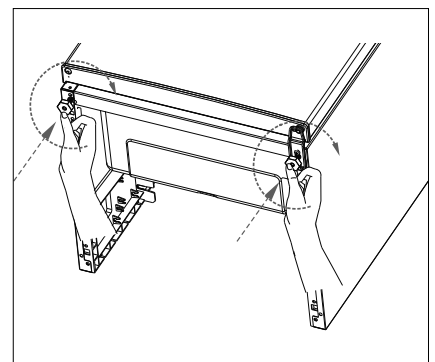

Fig. 13
- ▶ Reattach both appliance feet (7) by turning clockwise (Fig. 13).